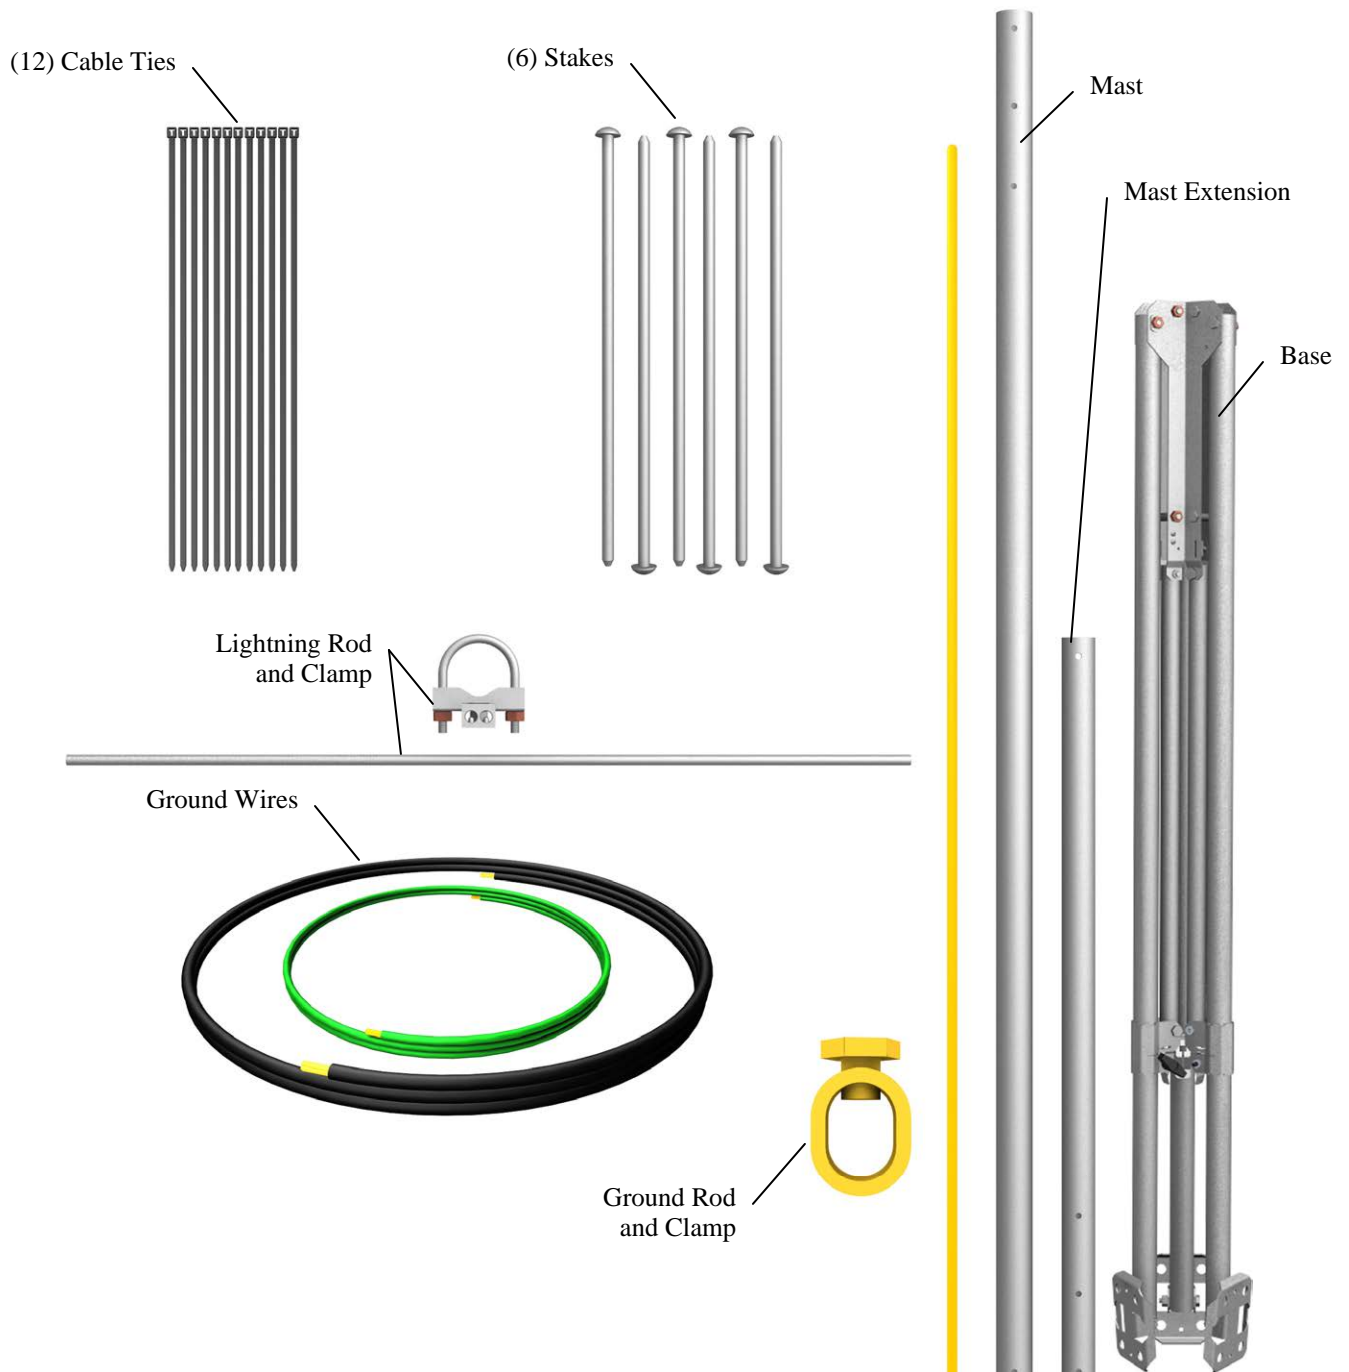

FIGURE 4-1. Tripod components
FIGURE 4-1 shows the tripod components. The tripod base is packaged with the mast, mast extension, ground rod, lightning rod, and (6) stakes. The ground rod clamp, lightning rod, lightning rod clamp, cable ties, and ground wires are enclosed in a bag. The optional guy kit is packaged separately.